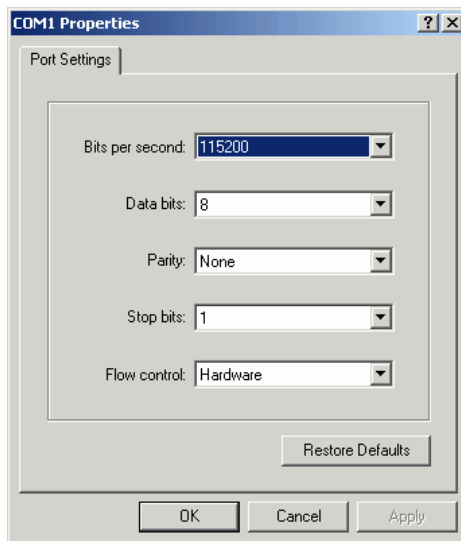

Figure 3-26 COMn Properties Dialog Box
- g. Ensure the *Connect using* field displays **COM1** or **COM2** (depending on the serial communication port connection to the switch), and click *OK*. The *COMn* dialog box displays, where *n* is 1 or 2 (Figure 3-26).